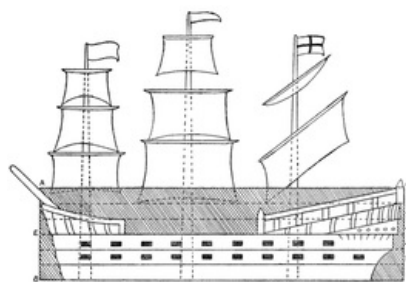

FIG. 173
The ships represented in Fig. 173 and in Plate IV are made in the same way. In all these a piece of cardboard forms the foundation. Masts, high funnels, anything likely to bend, should also be cut from cardboard, but sails, stern or prow ornaments, railings, flags, etc., are best cut out of paper. By means of a needle and cotton, rigging can be added to the ships.
**A Tudor Ship** (Fig. 173). Tudor ships are difficult, because of their elaborate and lofty forecastle and poops. A simplified one is shown in the figure. This can be easily managed by the children if an oblong A B C D is given them, divided into six parts lengthways, or if the oblong E B F D is given them. In the latter case the poop and forecastle are cut out of paper and gummed on separately. The ship is coloured red, yellow and blue, the sails white. The ship may be decorated with many flags.